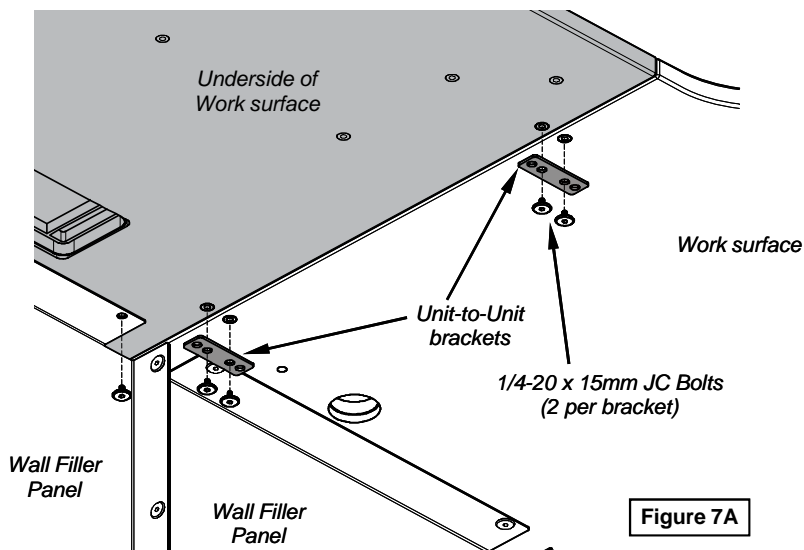

Figure 7A
- Attach the (2) unit-to-unit brackets to one installed work surface (use inner holes) with 1/4-20 x 15mm JC bolts. Do not tighten completely. **Figure 7A**.